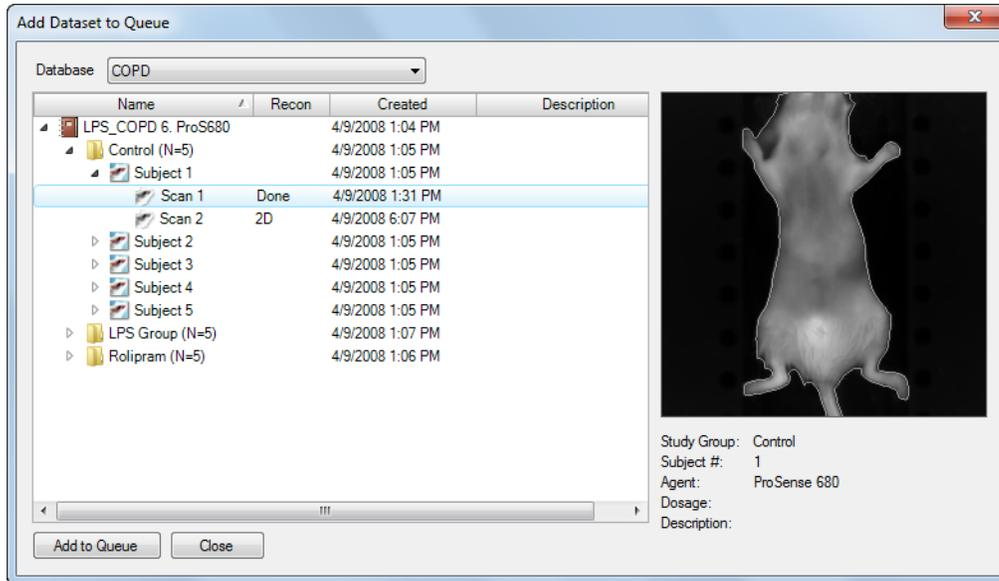

Figure 6-9. Add Dataset to Queue window
2. Click the **Add** button to open the **Add Dataset to Queue** window (Figure 6-9) and display all studies, groups, subjects, and scans in the active database.